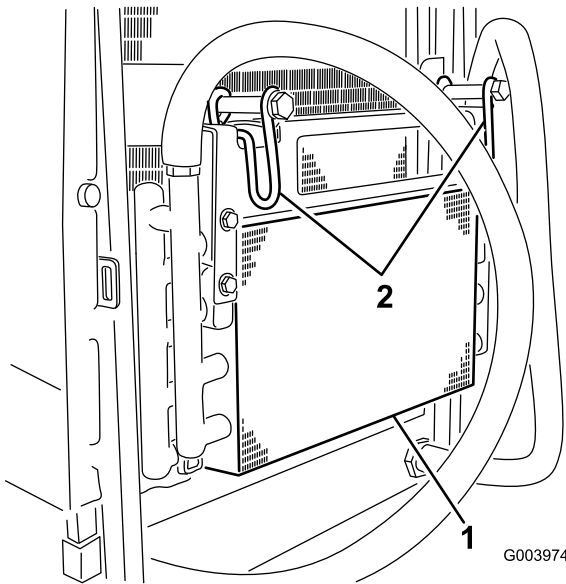

Figure 57
6. Pivot the latch inward to release the oil cooler (Figure 57).